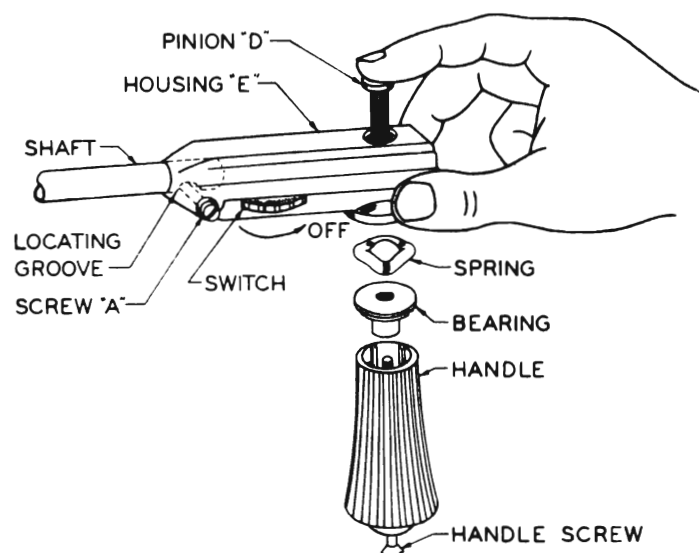

Figure 11-38—Assembly of Safety Light Pinion and Handle
3. Loosen screw "A." Remove handle screw, handle, bearing, and spring then push pinion up and remove it. Remove screw "A" and pull housing from shaft. See figure 11-38.
4. Be sure to turn switch to "off" position to avoid damage to switch contacts. See figure 11-38.